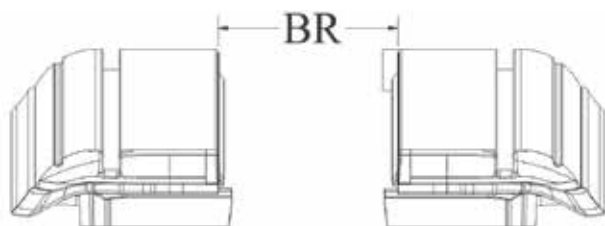
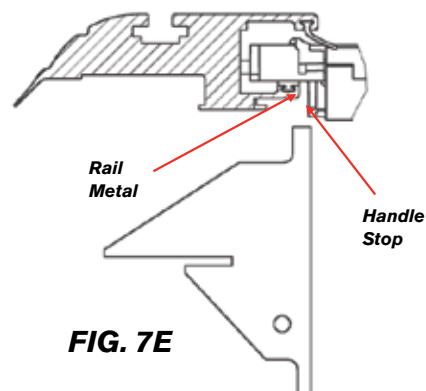

FIG. 7C
FIG. 7E
- Now tighten your clamp bolts with your Torque Wrench to 70 in-lb (5.9 ft-lb). Finally, check for proper spacing by measuring between the rails by attempting to insert the BR Gauge in between the rail metal and the handle stop (FIG 7E). You can also check the measurement between the rail at the canister and the tailgate end of the rails. The measurements should be equal to or less than those in Figure 7C. The Clamp Extensions have been pre-installed with brackets and shims to achieve the proper Between the Rail dimension (BR) when placed on an average factory truck bed. However, not all truck beds are average dimensionally and some have optional plastic caps or over the rail spray-in liners.